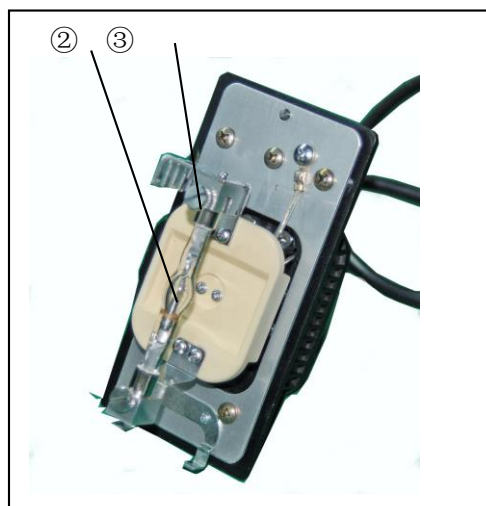

Fig 11
2.2.7 Mounting the Mercury Burner (fig10, fig 11)